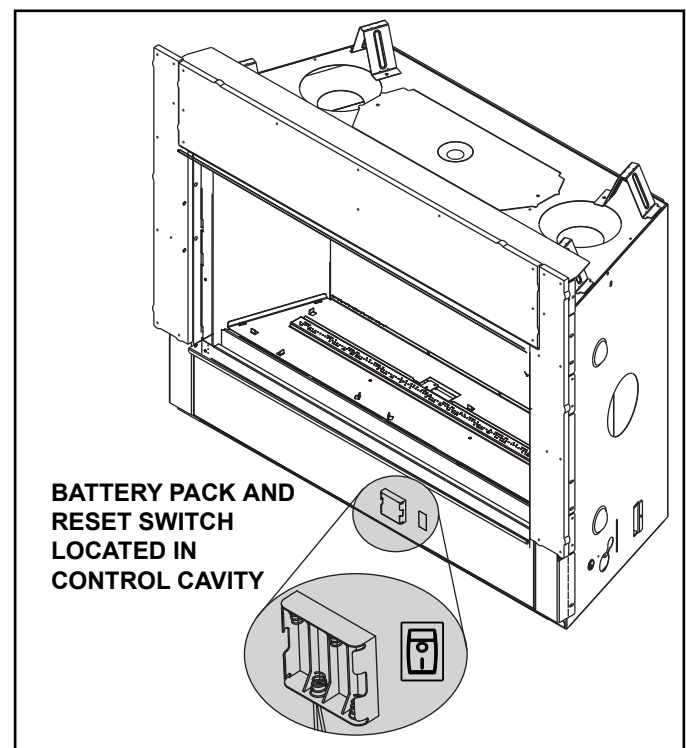
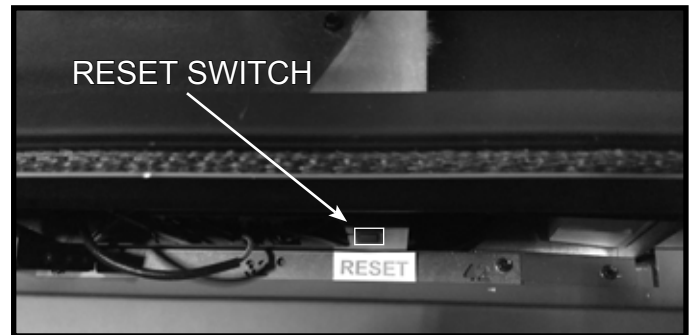

Figure 3.8 Battery Pack Location/Control Cavity
Figure 3.10 Reset Switch Location
The IntelliFire™ Touch intermittent pilot ignition system comes with a battery backup system that enables the system to operate in a power outage. The system offers seamless transition from household AC power to battery backup. A factory-installed battery pack is located in the control cavity of the appliance. See Figure 3.8. Battery longevity and performance will be affected by long term exposure to the service temperatures of this appliance.
1. The battery pack is located in the control cavity of the appliance. To access the control cavity of the appliance Remove the decorative barrier front and glass assembly. See Section 4 for instructions on glass assembly removal. See Figure 3.8 for location of battery pack.
2. Locate the battery pack and remove it from the control cavity. It is held in place by hook and loop fastener. Insert four AA cell batteries. Battery polarity must be correct or module damage will occur. See Figure 3.8. A complete wiring diagram is included in the Electrical section of the appliance Installation Manual.
The appliance has a reset switch located inside the control cavity. See Figure 3.8 and Figure 3.10 for approximate location.
- Locate reset switch inside the appliance. See Figure 3.10. Switch is located above the "RESET" label. Hold reset switch down for one second and release. A "beep" will signal module is reset.